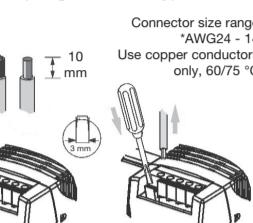

Fig.3 Connections
- For permitted loads, cable cross-sections and stripping: See enclosed leaflet "Technical Data" (See Fig. 3).